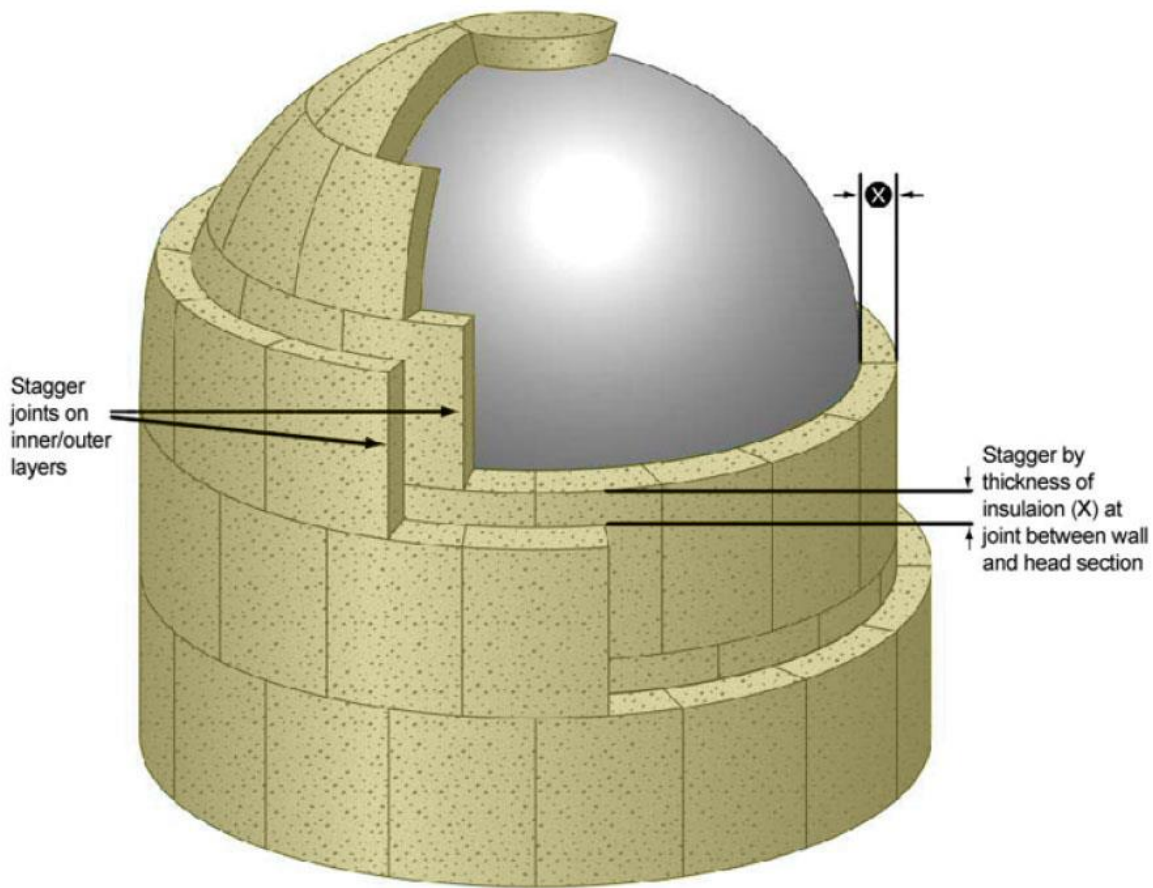

Figure 8
- 4.3.6 In multi-layer applications, the horizontal and vertical joints of the inner and outer layer curved segments shall be staggered (see Figure 8 in Appendix B).